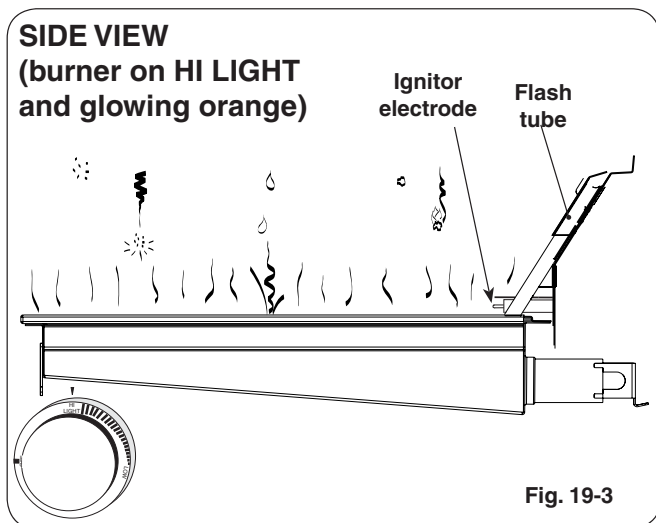

Fig. 19-3
- DO NOT place food on the cooking grid until the IR burner glows orange (Fig. 19-3). Drippings are heated and evaporate instead of sticking to and impairing burner function.